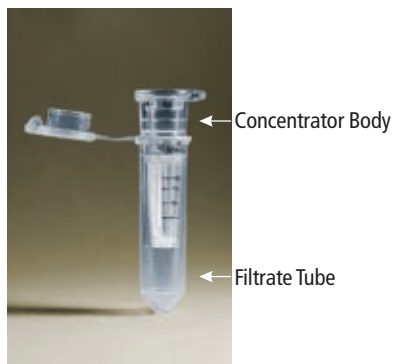

FIGURE 5 • Spin filter used to concentrate dilute protein samples prior to conjugation.
1. Dilute protein solutions, e.g., 0.2–0.9 mg/mL, to be conjugated must first be concentrated using the diafiltration spin filter device shown in Figure 5. This spin filter is composed of a PES (polyethersulfone) membrane. This membrane has very low protein binding properties with a molecular weight cut-off (MWCO) of 5 kD. This device is made to contain and process a volume of 500 μ L or less.